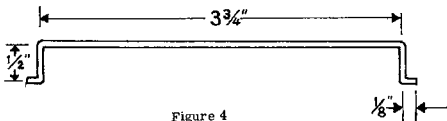

Figure 4
- (✓) Connect the leads from the bifilar coils to the solder lugs on the polystyrene bar; lead 1 to solder lug A, lead 2 to solder lug B, lead 3 to solder lug C, and lead 4 to solder lug D. Cut off the excessive length from each lead (NS).
- (✓) Repeat the above connections on the other bifilar coil, lead 5 to solder lug E, lead 6 to solder lug F, lead 7 to solder lug G, and lead 8 to solder lug H (NS).
- (✓) Cut a piece of #14 wire 4 3/4" in length. Bend and form the wire as shown in Figure 4. Connect one end to solder lug A (S-2) and the other end to solder lug E (S-2).
- (✓) Cut a piece of #14 wire 4 3/4" in length. Bend and form the wire as shown in Figure 4. Connect one end to solder lug C (S-2) and the other end to solder lug H (S-2).
- (7) Cut a piece of #14 wire 4 3/4' in length. Bend and form the wire as shown in Figure 4. Connect one end to solder lug C (S-2) and the other end to solder lug G (S-2).
- (8) Position solder lug J on the feed-through insulator so that it points away from the bottom of the chassis.
- (9) Cut a piece of #14 wire 1 1/2' in length. Form a small loop on one end and connect it to the wire going from solder lugs C and G. Connect the other end to solder lug J. Solder both connections.